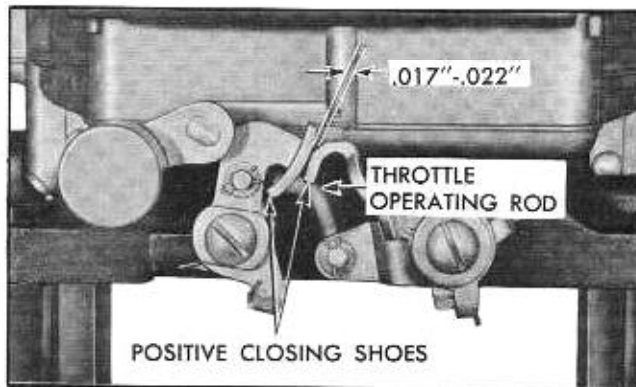

Fig. 6B-34 Primary and Secondary Throttle Levers
4. Check to see that there is .017" to .022" clearance between primary and secondary throttle positive closing shoes with throttle valves closed (Fig. 6B-34). If not, bend closing shoes as necessary.